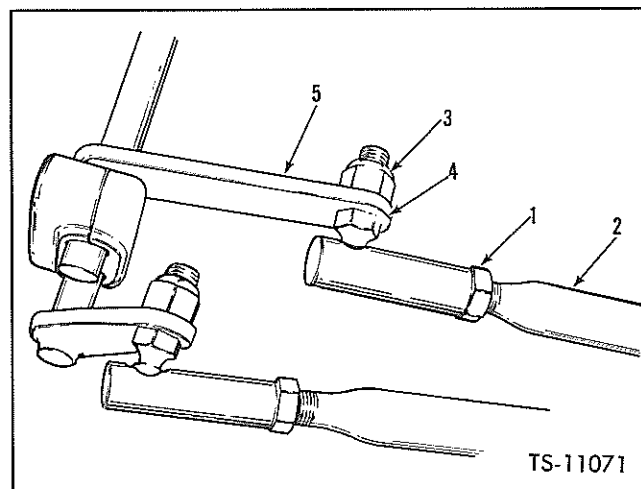

Fig. 21. Adjust Directional and Speed Range Levers
3. Loosen jam nut, (Item 1 Figure 21), on shift cable, (Item 2 Figure 21), and remove locknut, (Item 3 Figure 21) securing ball joint assembly (Item 4 Figure 21), to shift lever arm, (Item 5 Figure 21).